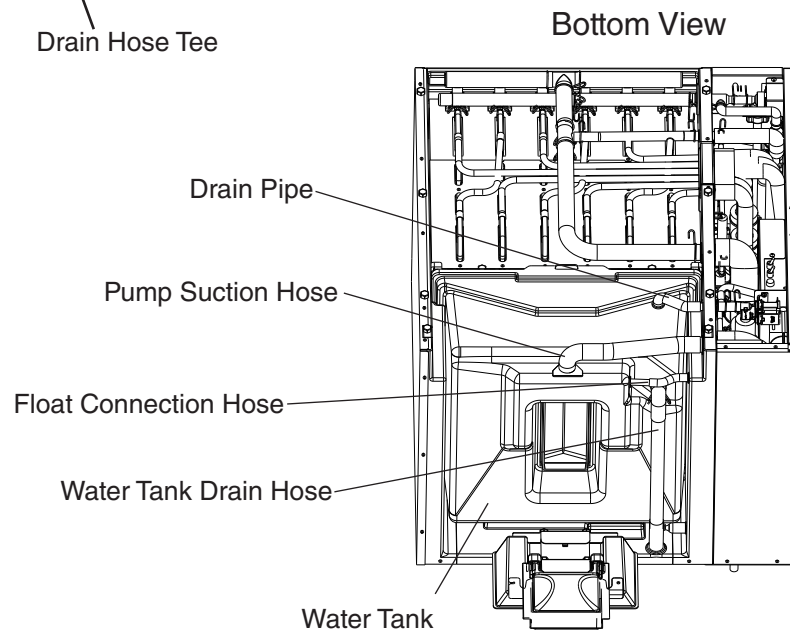

Fig. 6
- 18) Disconnect the hoses connected to the water tank. Allow the tank and hoses to drain completely. See Fig. 6.